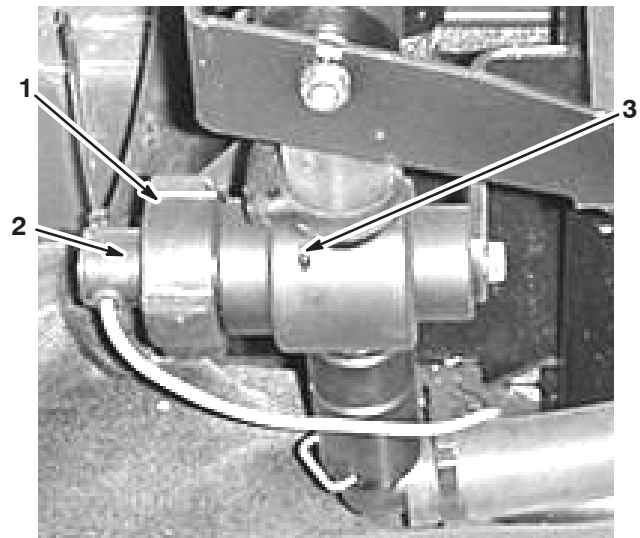

Figure 59
1. Remove the retaining cap from the flowmeter body (Fig. 59).